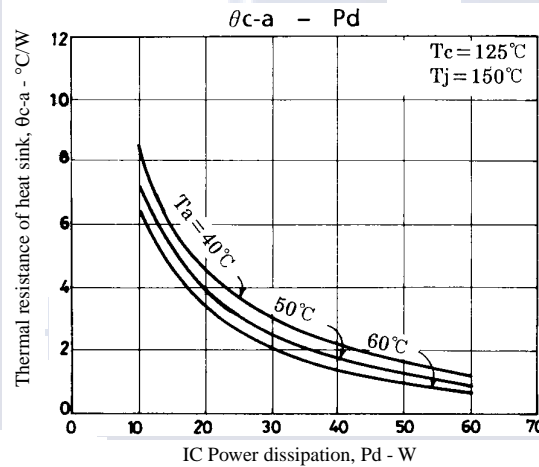

Figure 3. STK4122II θc-a - Pd
Figure 3 shows the relation between Pd and θc-a given from (1) and (3) with Ta as a parameter.
The thermal resistance of a heat sink is obtained from Figure 3.